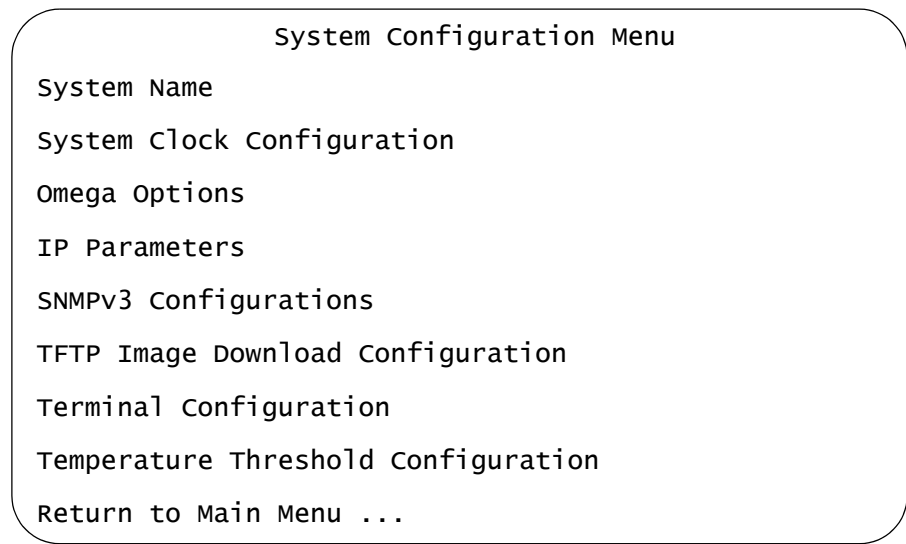

Figure 21. System Configuration Menu
2. From the Configuration Menu, select **System Configuration** to display the menu in Figure 21.
2. From the Configuration Menu, select **System Configuration** to display the menu in Figure 21 on page 80.